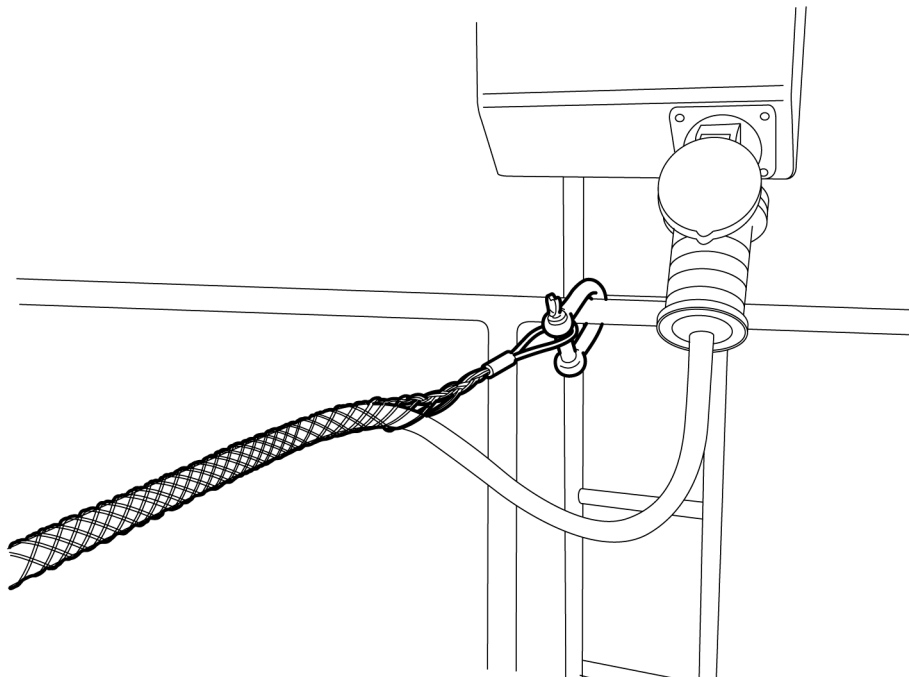

Figure 4-9. Cable and strain relief device
2. Plug the cable into an electrical socket, see Figure 4-9, page 31.
3. Secure the strain relief device in a suitable position in order to take the strain off the cable, see Figure 4-9, page 31.